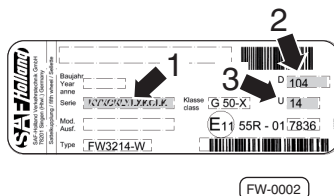

Fig. 1 · Type plate
- Adherence to the performance limits (see type plate) of the product Fig. 1.